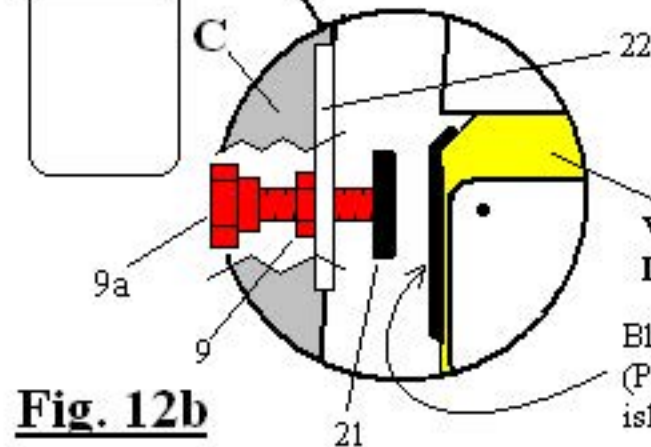
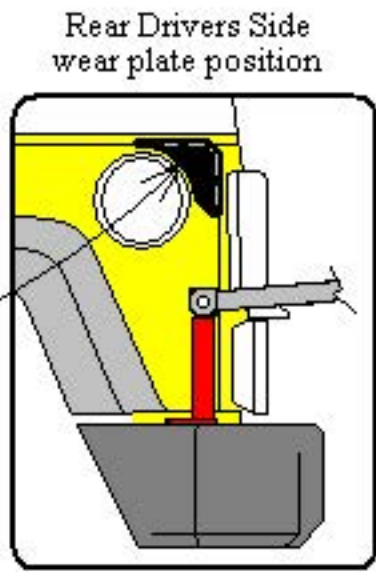

Fig. 12b
Fig. 12c
- 17- Refer to page 8 Fig. 12b loosen jam nut (9) and turn Anti-sway isolator knob (9a) counter clockwise to pull the isolator (21) away from vehicle body. Remove from Bag #3 two black adhesive backed triangular wear plates. As shown on page 8 Fig. 12b and 12c without removing the adhesive protective film from the wear plates position the plates over the rear upper corners of the vehicle body just behind each Anti-sway isolator as shown in Fig. 12c. Match the bends of the wear plate tightly to the angles of the vehicle body. Once you have a good idea of the wear plate's final position clean the area thoroughly with denatured alcohol remove the adhesive protective film and press in place. Apply the same procedure to the opposite side.
- 18- Tighten both Anti-sway isolators (21) in place by turning knob (9a) clockwise. As you tighten each isolator pull out on the support bar "C" so that a fair amount of tension is exerted against the wear plate. Apply the same procedure to the opposite side. This will prevent excessive movement or sway of the roof rack's rear section during use. Once both isolators have been adjusted tighten jam nut (9) clockwise to prevent loosening of the Anti-sway isolators. Installation is now completed.
- 19- Should the Gobi roof rack need to be tilted back for soft top retraction or removal be sure to first loosen both jam nuts (9) on the rear Anti-sway isolators (21) as shown on page 8 Fig. 12b both passenger and driver sides then fully unscrew the two Anti-sway isolators (21) to clear the vehicle body and tail light guards if present.
Should the Gobi roof rack need to be tilted back for soft top retraction or removal be sure to first loosen both jam nuts (9) on the rear Anti-sway isolators (21) as shown on page 8 Fig. 12b both passenger and driver sides then fully unscrew the two Anti-sway isolators (21) to clear the vehicle body and tail light guards if present.